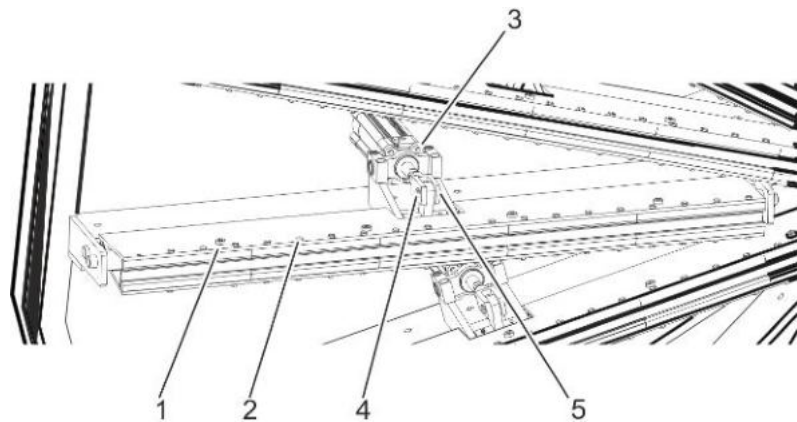

Fig. 106: Longitudinal wire clamp
3. Loosen screws (Fig. 106/1) and replace clamping segments (Fig. 106/2).
4. Fasten clamping segments (Fig. 106/2) with screws (Fig. 106/1).
4. Fold out spring bolt (Fig. 106/5).
5. Remove spring bolt (Fig. 106/5).
6. Loosen screws (Fig. 106/3).
8. Screw in and tighten screws (Fig. 106/3).
9. Insert and secure spring bolt (Fig. 106/5).